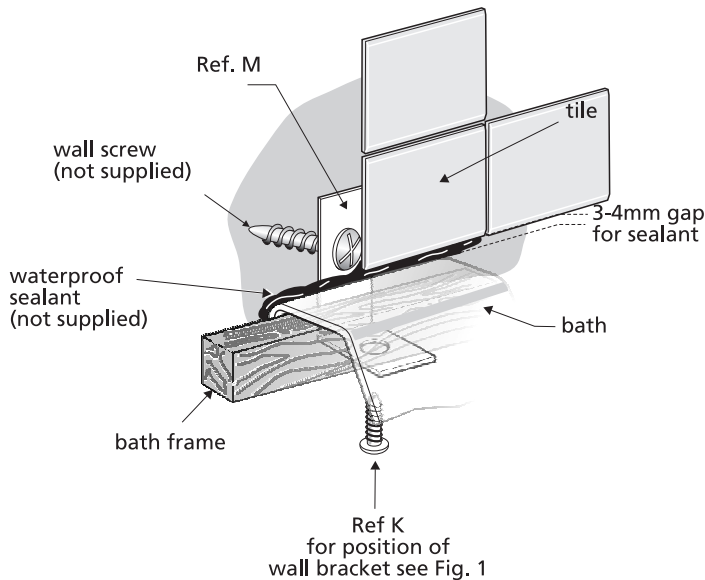

Fig. 6
8. Fit the two wall fixing brackets to bath frame as indicated in Fig. 6 and Fig. 1.
14. Tile down to the height of the bath rim leaving a 3-4mm gap for waterproof sealant, see Fig. 6. An extruded sealing strip can be used for the bath to wall joint as an alternative to waterproof sealant. Protect bath during tiling.